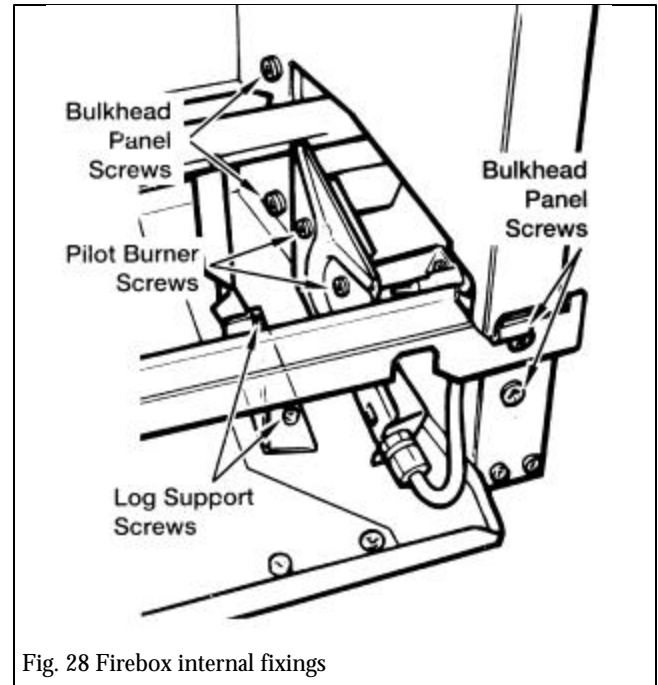

Fig. 28 Firebox internal fixings
2. To gain clear access to the pilot burner screw, detach the right hand front log support by removing two screws - see figure 28.
3. Remove the pilot and cross lighting burner by unscrewing the two screws fixing it to the bracket at the right side of the firebox - see figure 28.